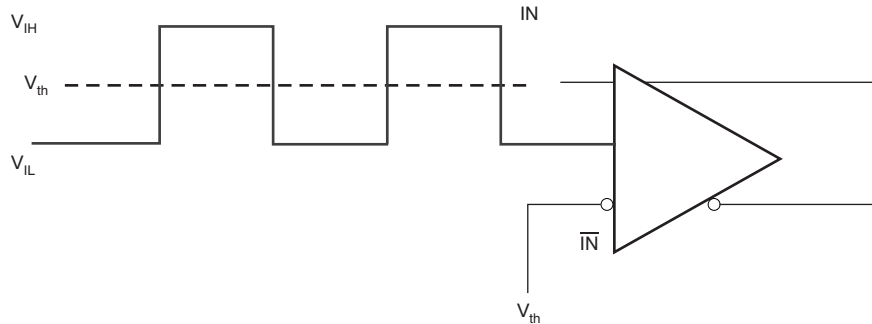
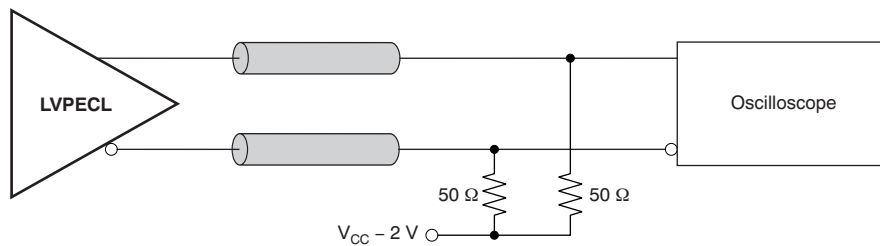
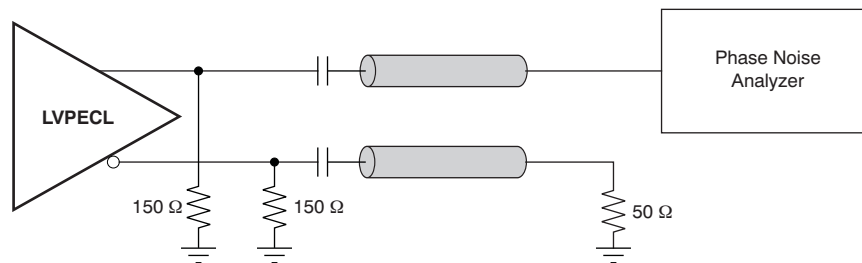

Figure 3. DC-Coupled LVCMOS Input During Device Test
Figure 8. LVPECL Output DC Configuration During Device Test
Figure 9. LVPECL Output AC Configuration During Device Test
(1) Figure 8 and Figure 9 show dc and ac test setup.
(2) Internally generated bias voltage ($V_{AC,REF}$) is for 3.3-V operation only. It is recommended to apply externally generated bias voltage for $V_{CC} < 3.0\text{ V}$.
This section describes the function of each block for the CDCLVP1208. Figure 3 through Figure 9 illustrate how the device should be setup for a variety of test configurations.